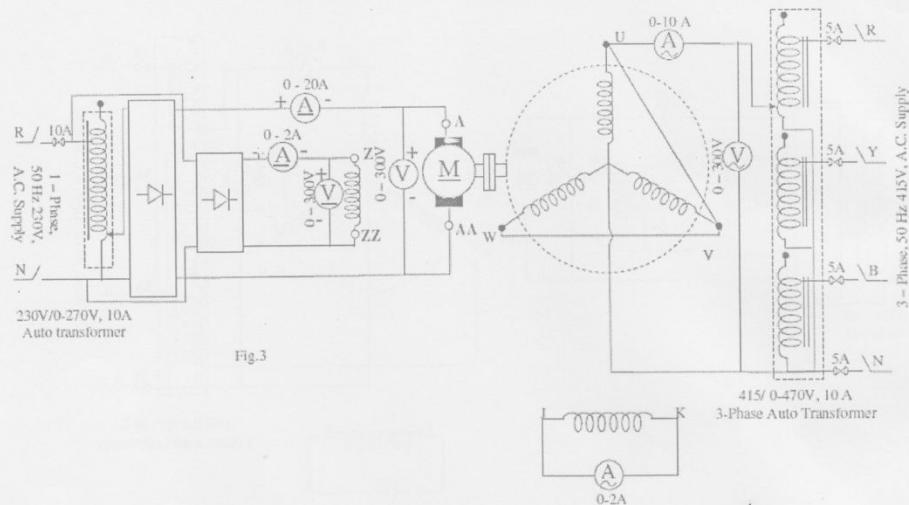

Fig. 3
1. Connections are given as per the circuit diagram shown in figure 3.